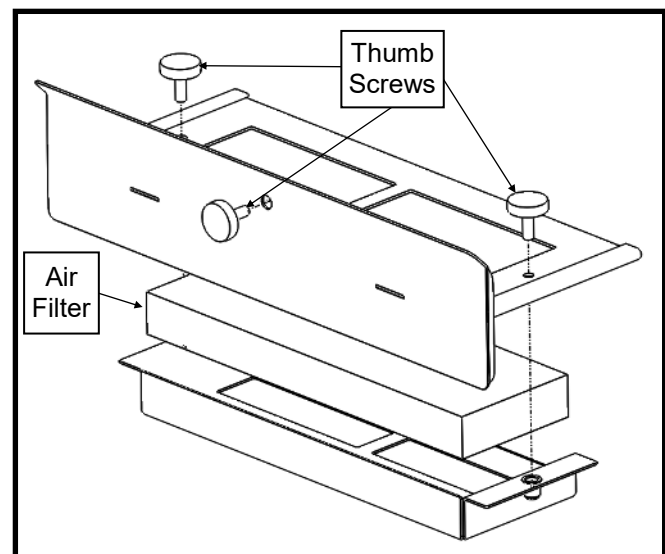

Figure 4. Air Filter Tray Assembly
2. Remove the two thumb screws which secure the air filter. Replace air filter with NAPA # FIL4752. See Figure 4.